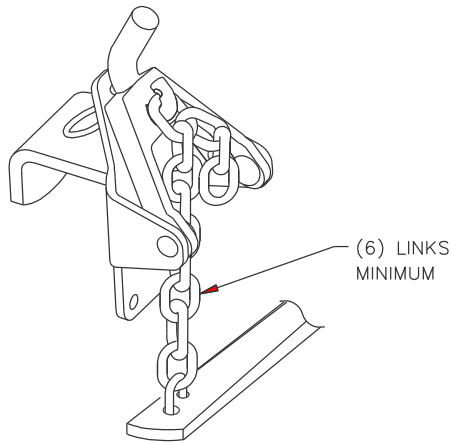

FIGURE 4
5. **There must be at least 6 links between the lift unit and the spring bar.** This is necessary for proper operation of the spring bars during turns(See figure 4), If there are less than 6 links, the angle of the head assembly must be increased.